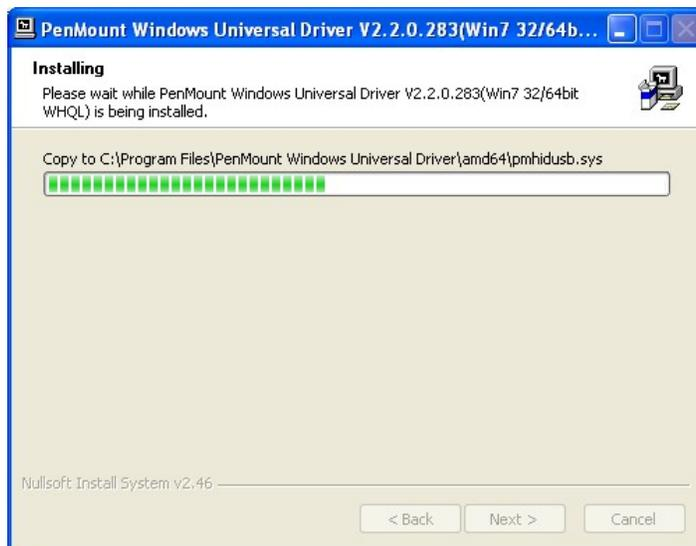

Figure 4-5: Installation Starts
Step 9: The installation of the program begins. See **Figure 4-5**.